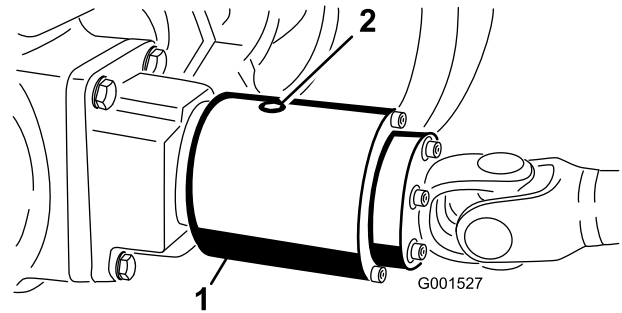

Figure 66
3. Rotate the clutch so that the check plug is positioned downward (Figure 66).